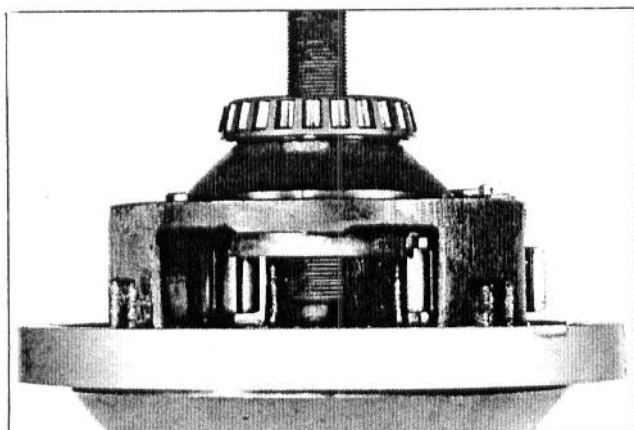

Fig. 43 - Planetary Carrier Puller Setup
6. Press the wheel axle from the planetary carrier using Special Tool MFN 265 with MFN 764-3 forcing screw. Refer to Fig. 43.